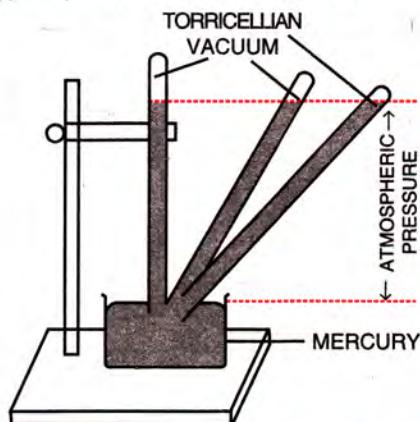

Fig. 4.19 Tilting of the barometer tube
Note : (1) The barometric height remains *same* even when the shape of tube is changed or the length of tube submerged inside mercury in the trough is changed or tube is tilted from its vertical position as shown in Fig. 4.19.